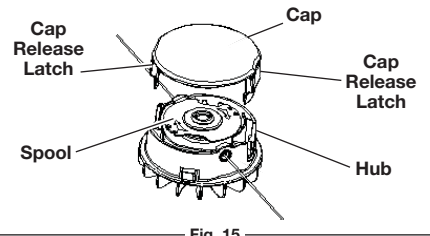

Fig. 15
- Press and hold the two cap release latches (Fig. 15).